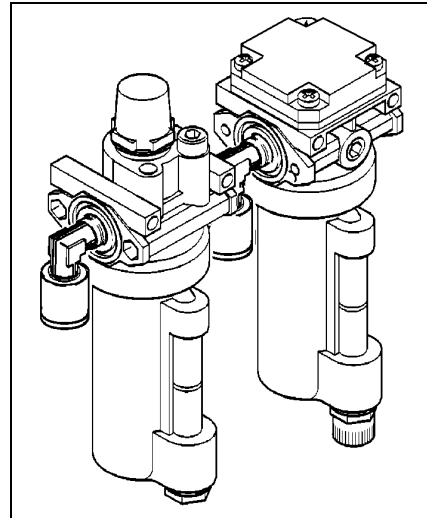

Fig.6
air filter-lubricator with water separator (Fig.6)**
**F.** Place the bead breaker arm #1 (Fig.6) inside arm support #4. Holes #5 of arm and arm support must match.